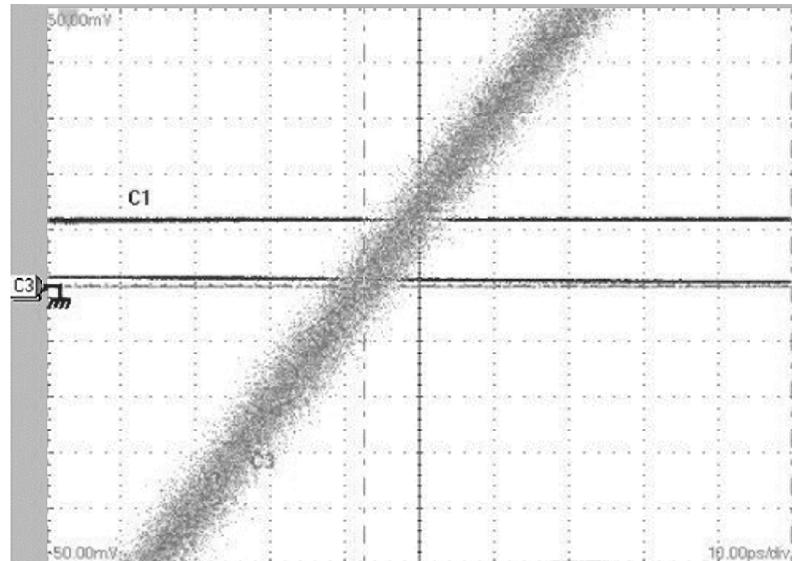

Figure 40: Display example (zoomed in at the crossing point)
- Zoom into the 50% crossing point of the first rising edge on the C3 clock signal until the Horizontal SCALE is **10 ps/div** and the Vertical SCALE is **10 mV/div**. (See Figure 40.)